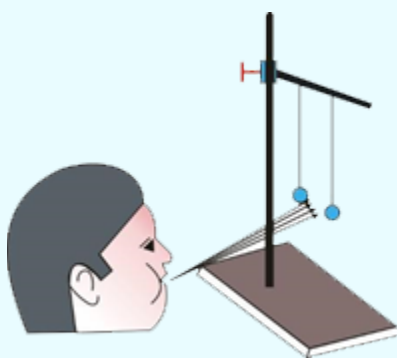

Fig. 10.2.2: Air pressure is reduced between the balls when a high speed wind flows in the space between them
- Suspend two table tennis balls from a horizontal rod clamped to a laboratory stand as shown in Fig.10.2.2. The balls should be close to each other and at the same height but not touching each other.